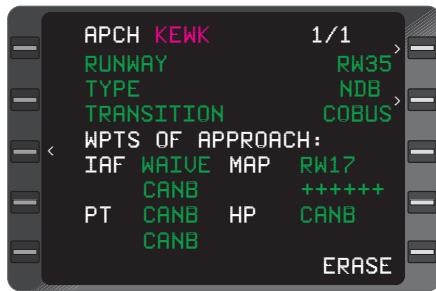

Figure 3-58
2. **ENT** Key - DEPRESS to review **APPROACH** (Figure 3-58)